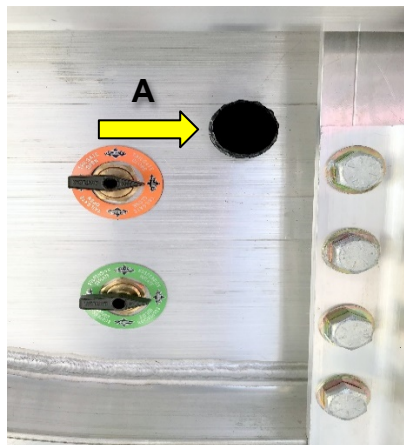

Figure 5-1 Lead/Pup Selector Valve
6. **For Lead and Pup Trailers Only:** Push the valve Handle (A) inward to operate the lead trailer, or outward to operate the pup. See figure 5-1. The valve is located on the driver side of the lead trailer, forward of the landing gear.